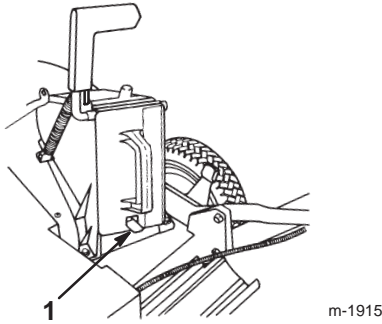

Figure 6
- Push the plug all the way in until the spring clip on the bottom of the plug clicks into place, locking the plug securely into the discharge tunnel (Fig. 6).